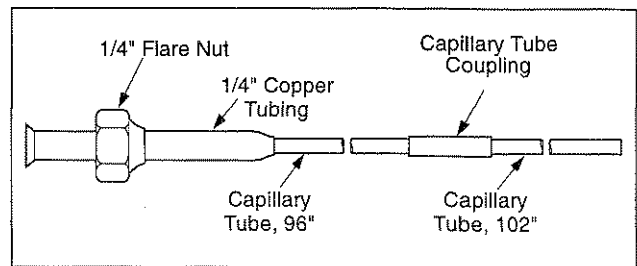
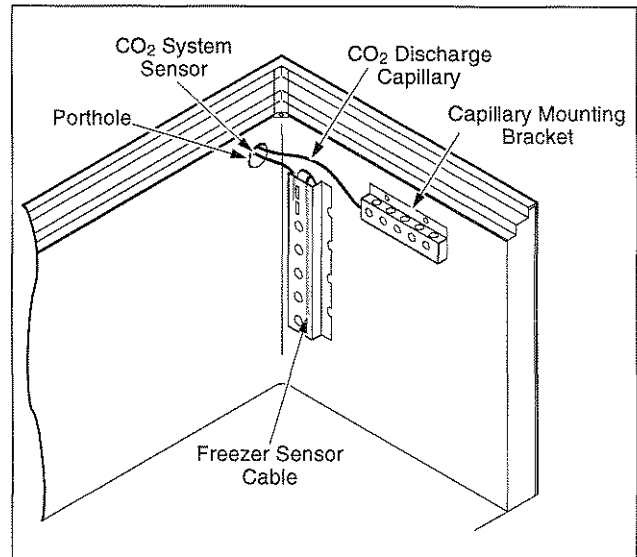

Figure 6. CO₂ Discharge Tube Assembly
Figure 7. CO₂ System Component Placement
3. Install the liquid discharge tube (refer to Figure 6 and Figure 7):